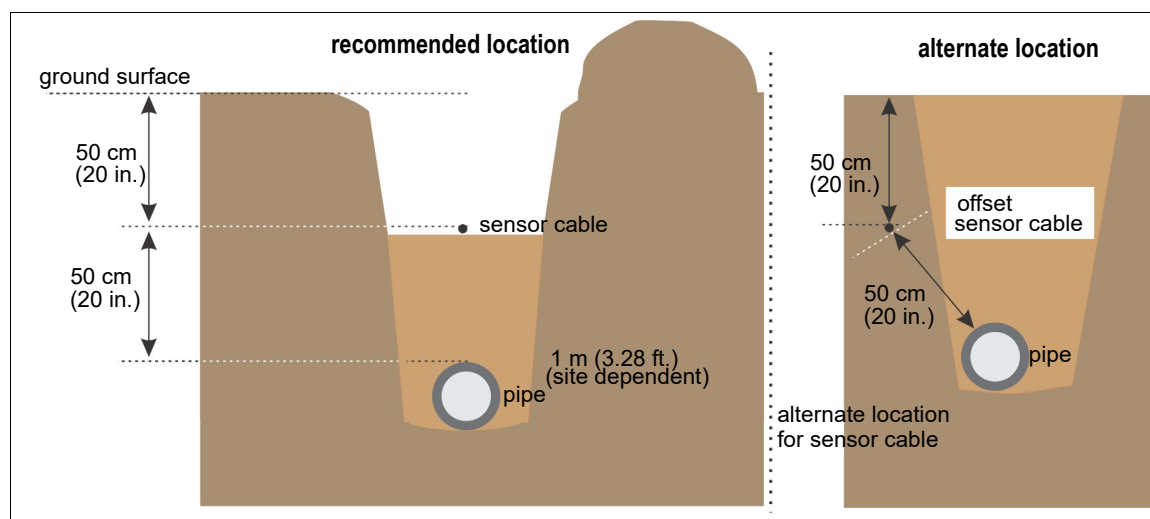

Figure 62: Sensor cable burial for third party interference detection
- burial depth (third party interference): the recommended burial depth for the sensor cable is 50 cm (20 in.) below the ground and 50 cm above the pipeline \pm 7.5 cm (3 in.) (see Figure 62:)